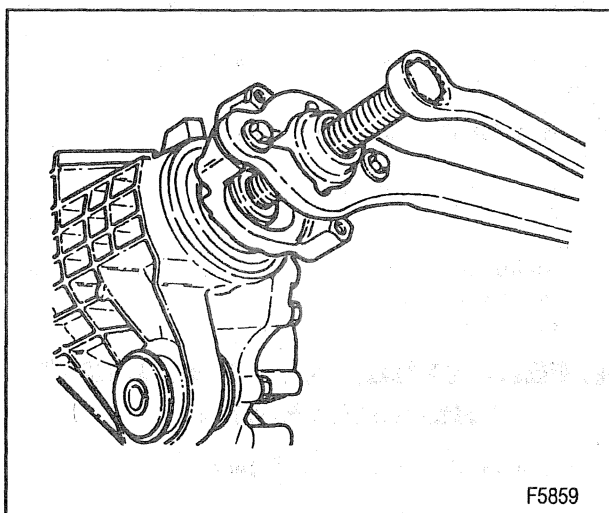

Figure 28—Removing/Installing the Pinion Flange
3. Flange using J 8614-01 (figure 28).
Install or Connect (Figures 28 and 29)
- Flange onto the pinion using J 8614-01 (figure 28).